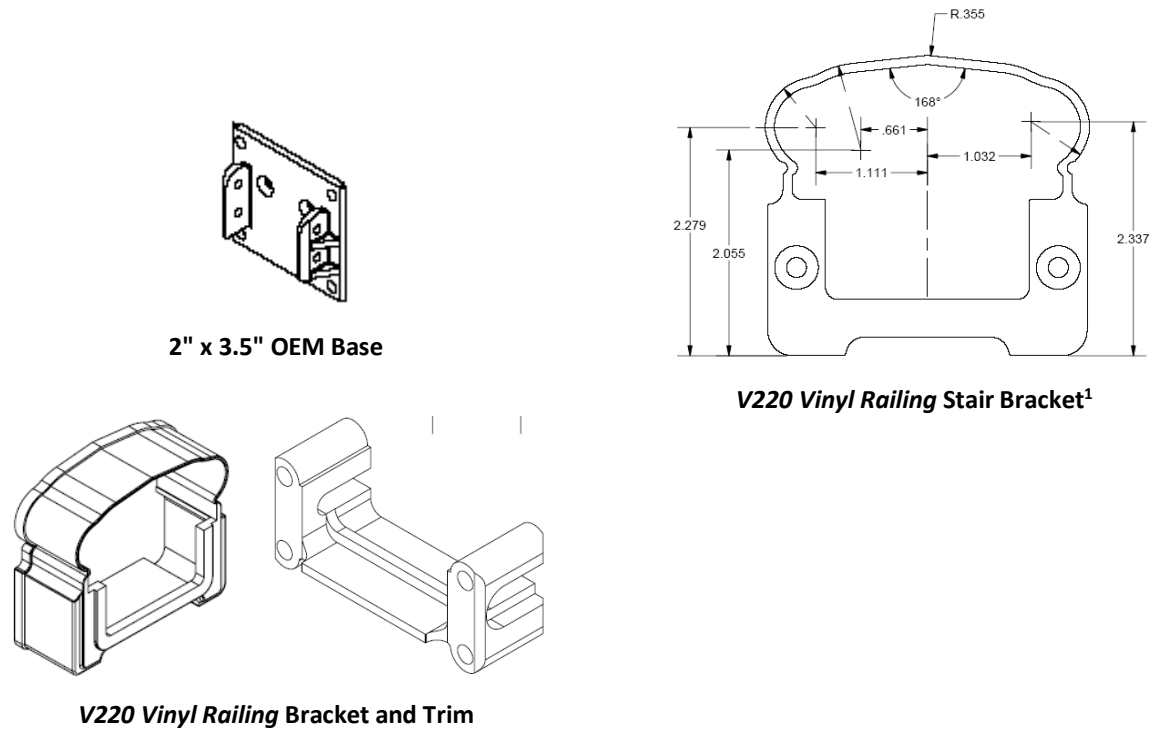

FIGURE 7 - PLASTIC BRACKETS
3.3.4 Top and bottom rails are connected to posts with molded plastic brackets (See Figure 7) that are secured to the supports with stainless steel screws.